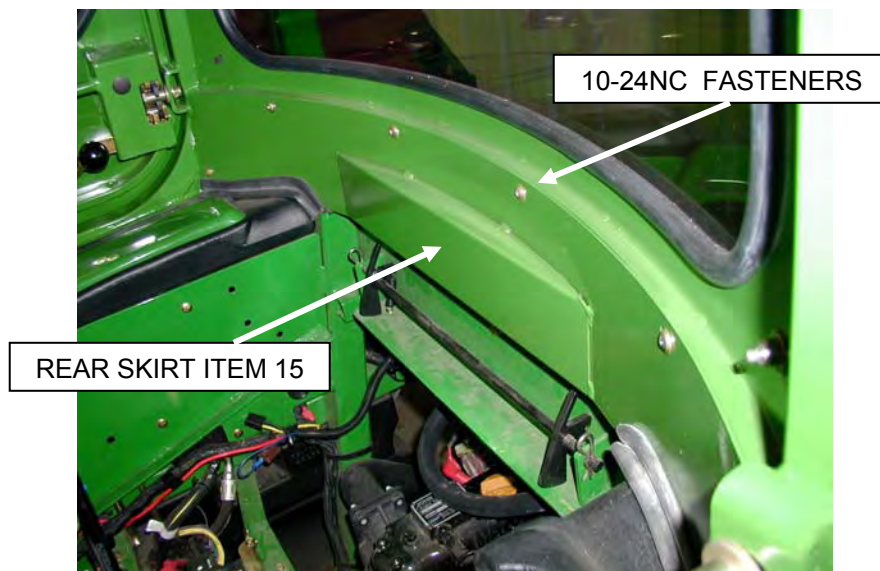

Figure 2-13
- 2.13) With the seat tipped forward, install the rear skirt from the inside using the 10-24 UNC fasteners shipped with the mnt kit. (Refer to item 15 on mount kit drawing 4-14563). See figure 2-13.